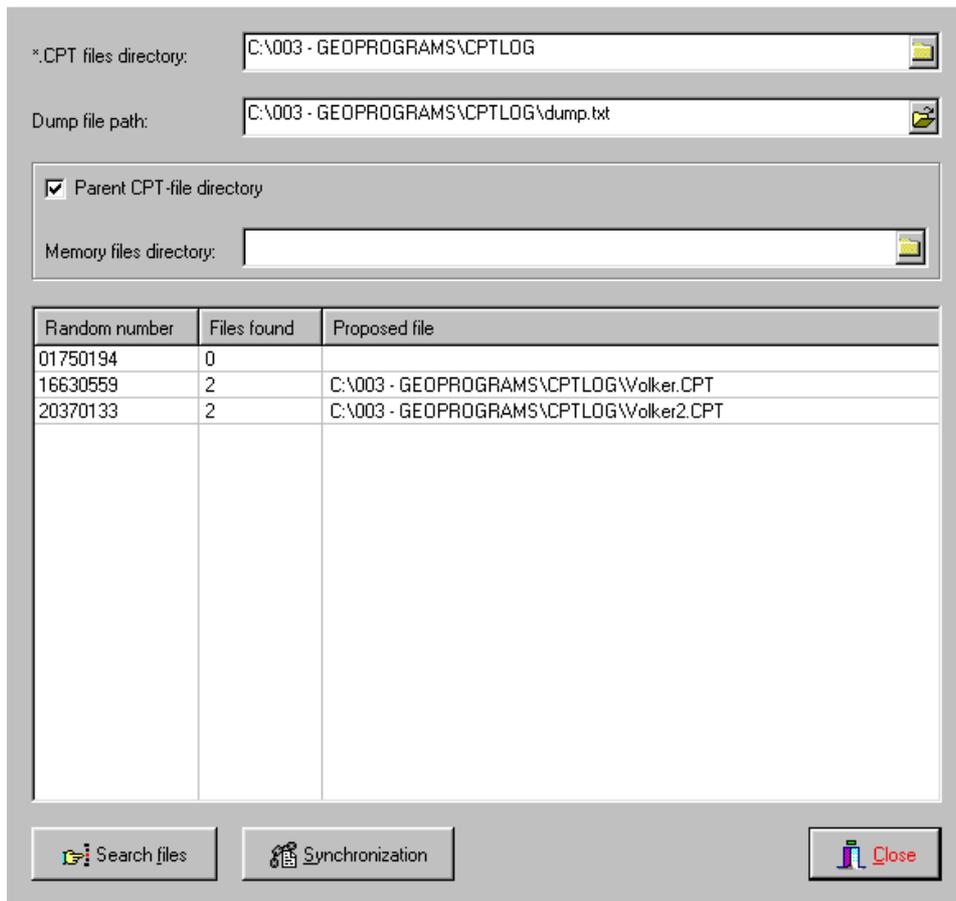

Fig. 5-2: Synchronization menu for specifying the file directories
6. After the read out has been completed the "Synchronization menu" window appears (Fig. 5-2). During synchronisation of DUMP.TXT with the data recorded on surface \*\_m.CPT files will be created which takes only a few seconds.